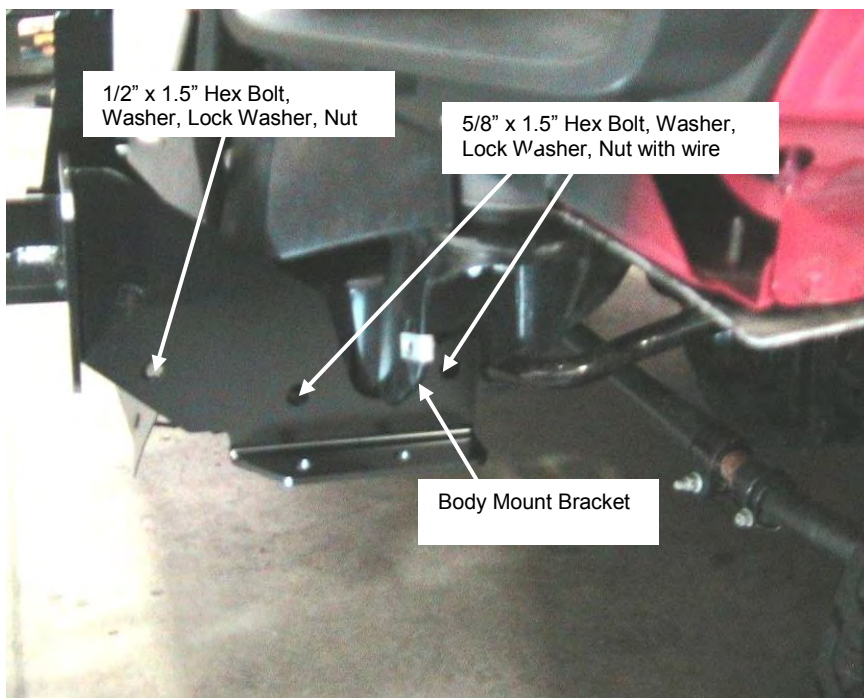
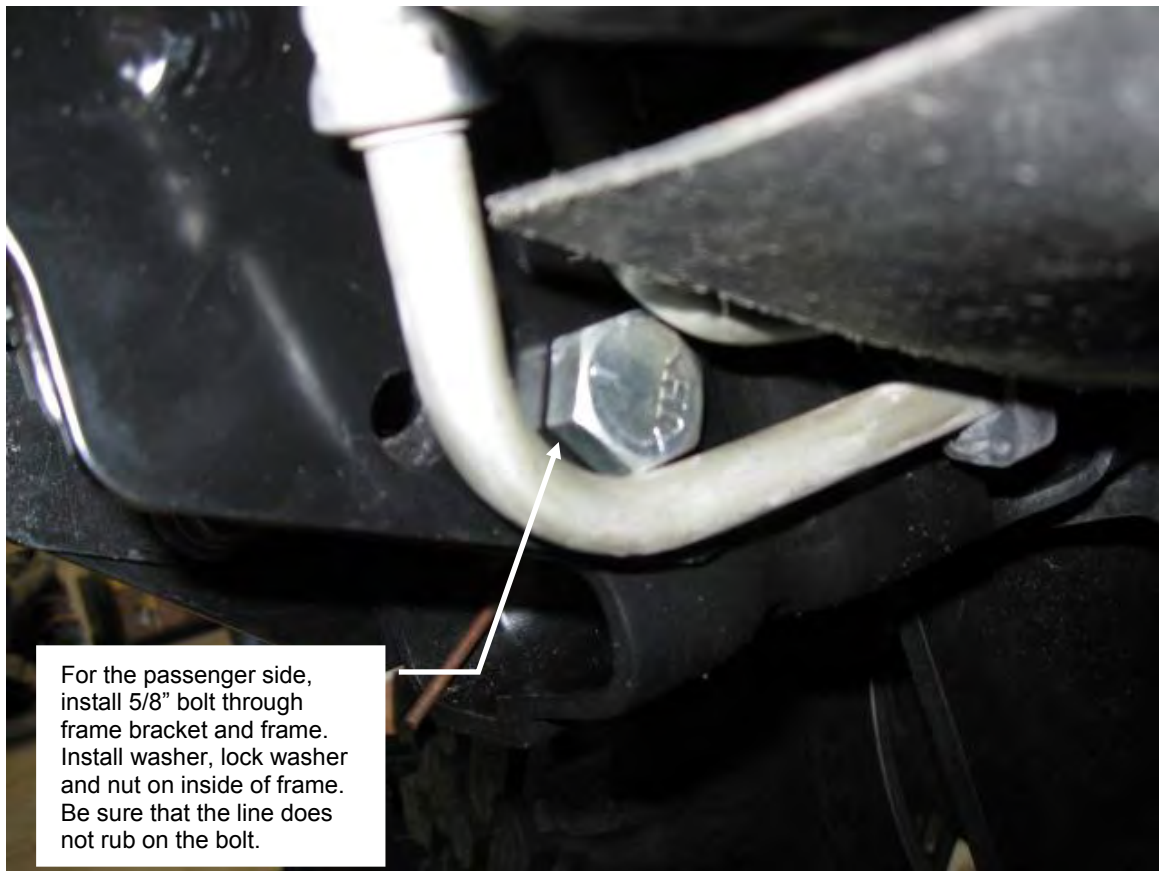

Figure 1: Placement of the Frame Bracket (Driver Side)
Figure 3: Frame Bolt Installation. (Passenger Side)
1. Install the frame bracket on the driver's side frame by setting the bracket on the frame and tilting it back to allow the rear part of the bracket to slide past the body mount bracket. It may be necessary to lightly tap the frame bracket into place. Be very careful not to damage any vehicle parts while installing the brackets. Intercoolers and hoses are close to the brackets so care should be taken not to damage, kink, or cut the hoses during installation. Once the frame bracket is in place and holes are lined up with the holes in the frame, repeat for passenger's side frame. (See figure 1.)
2. Install fasteners as shown in **Figure 1, 2 and 3**. Do not tighten any fasteners until instructed to do so.
3. Install all of the fasteners as shown in **Figure 1 through Figure 3** for both sides of the vehicle frame. Torque all of the fasteners to their specified rating.